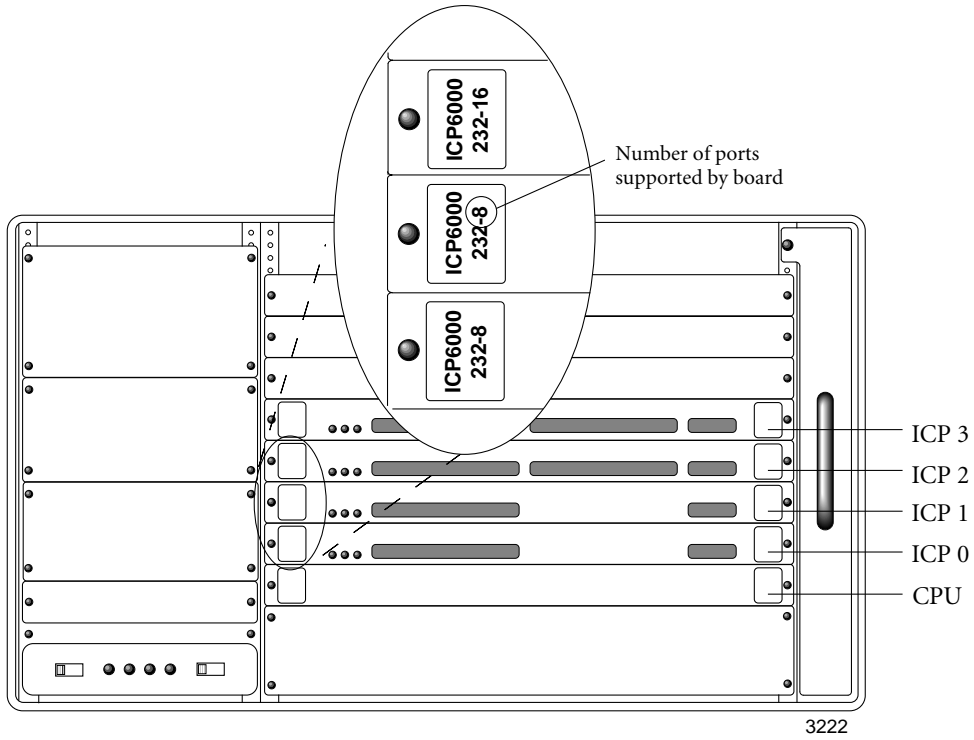

Figure 4-1: Number of Ports Supported by an ICP
- For ICPs, check the ID plate on the left ejector handle of each ICP as you are facing the front of the Freeway unit. The number before the hyphen is the electrical interface, and the number after the hyphen indicates the number of ports supported by the ICP. For example, in Figure 4-1, all ICPs support EIA-232. ICP 0 and ICP 1 are 8-port boards and ICP 2 is a 16-port board.